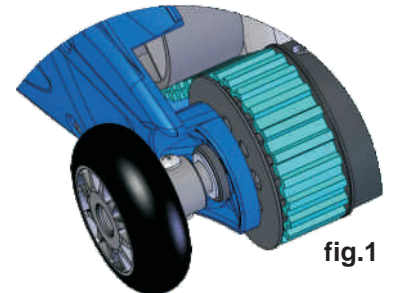

fig.1
**DURAMAX DUO/DUO Jr/RC** This machine has a *delayed start* feature where the machine can start cleaning the pool an hour after the Main Power Supply is turned on. This is done by switching the power supply on (fig 1) and pressing the delay button on the remote control (No.4). The UP/DOWN button allows the machine to reverse itself both on the wall and floor. If for any reason the machine is stuck on the pool floor for more than 6 minutes it will reverse (the Duramax RC has 2.5 minutes before reversing.) If the machine does not climb a wall within 6 minutes, it will reverse in the other direction. If the machine climbs out of the water, it reverses itself every 25 seconds. The machine can be programmed for *wall and floor* or *floor only* cleaning. The default mode is set to clean the floor only. To change the mode to clean the floor and wall, press the forward/reverse button on the remote control once then turn the Main Power Supply switch on and the floor only mode will be engaged. After the Power Supply switch is turned on the machine will first search for the wall. After it finds the wall, the machine climbs the wall and remains on the wall for 2 seconds or 45 seconds ("pool floor only" and "pool floor and wall" mode respectively) after which it reverses itself to head towards the pool floor. The machine will move away from the wall for about 2 seconds turn, reverse and will search for the opposite wall. The machine will climb the wall and remains on the wall for 2 seconds or 45 seconds ("pool floor only" and "pool floor and wall" mode respectively) after which it reverses itself towards the pool floor. After this the program will repeat itself. Between 1 to 4 minutes the machine will turn on the pool floor. The machine will perform a 90 degree turn and alternate between right and left turns
This machine has a one hour *delayed start* feature. The cleaner can start cleaning the pool an hour after the Main Power Supply is turned on. This is done by switching the power supply on (fig 1) and pressing the delay button on the remote control (Fig 4). The DURAMAX TRIO is a floor cleaning machine only. The UP/DOWN button allows the machine to reverse itself on the pool floor. If the machine is hung-up on the pool floor for more than 5 minutes or if the machine does not reverse within 8 minutes, it will reverse in the other direction. If the machine leaves the water, it will reverse itself every 25 seconds until it locates water. If water is not located it will shut itself off. After the Power Supply switch is turned on the machine will first search for the wall. After it finds the wall, the machine climbs the wall and remains on the wall for 2 seconds turn, reverse and head towards the pool floor. The machine will move away from the wall for about 2 seconds, turn, and will search for the opposite wall. It will climb the wall and remains on the wall for 2 seconds after which it will reverse itself towards the pool floor. After this, the program will repeat itself. Between 1 to 4 minutes the machine will turn on the pool floor. The machine will perform a 90 degree turn alternately between the right and the left.
Locate the small arrow molded into the Bushing (fig 1.) When installing the Bushing, if the arrow is pointed towards the center of the machine the Drive Track will be made tighter. If the arrow is pointed away from the machines center the Drive Tracks will be looser.